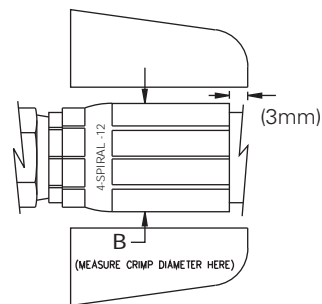

Figure 2
- To achieve full flat crimp locate back edge of socket approximately 1/8" (3mm) from back edge of crimp jaws as shown in Figure 2.